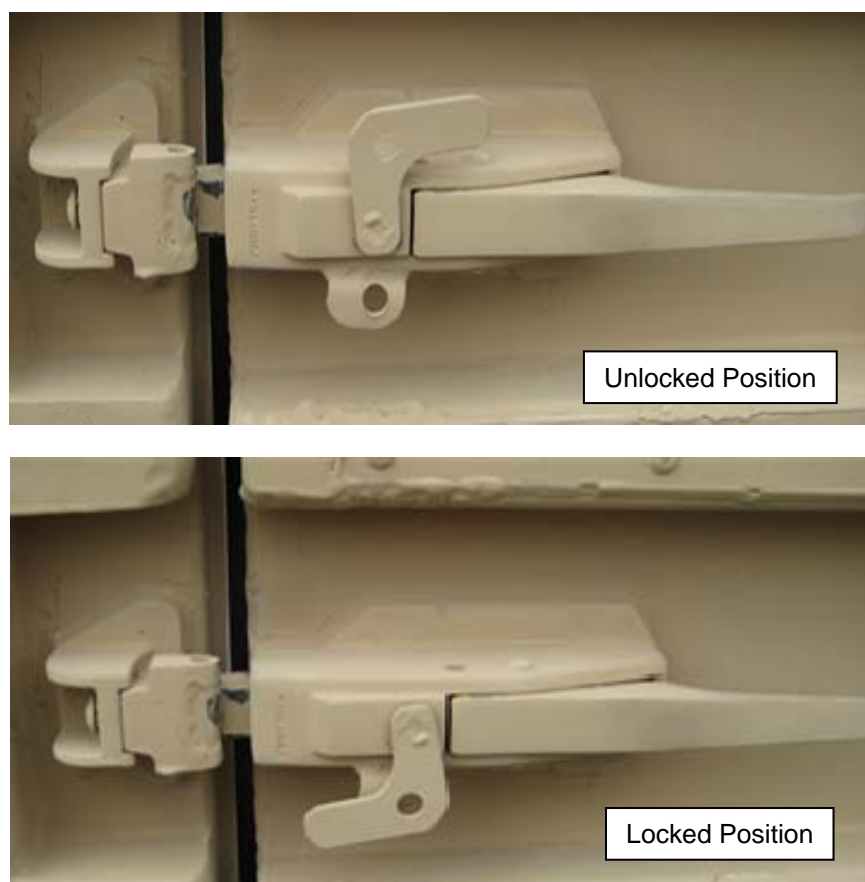

Figure 2-7. Door Handle.
- (2) To operate the door from the exterior the latch must be raised in the unlocked position as shown in Fig 2-7. Pull back on the door handle to break the vacuum between the container and the door. Use the pull handle to open the door once the vacuum has been broken.